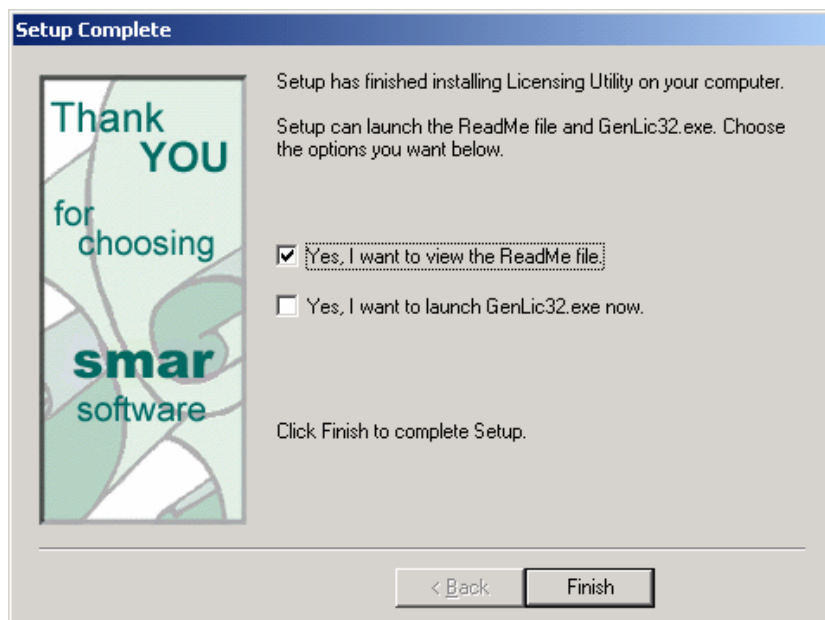

Figure 3.10. Setup Complete
15. Setup is now complete, as shown in **Figure 3.10**. Click the **Finish** button to exit the installation wizard. You may be asked to restart your computer before running the SMAR License Utility.